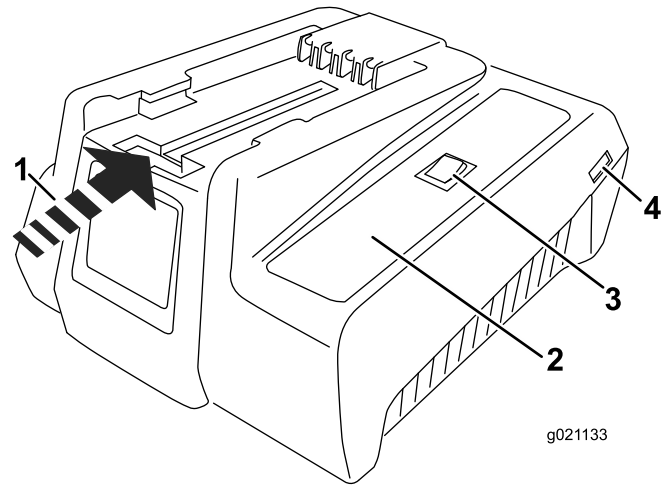

Figure 10
- If the power cord is not plugged in to the charger, plug it in to the charger (Figure 10), then plug the power cord into a power socket.
- Turn the battery upside down and line up the battery terminal with the slot in the charger (Figure 10 and Figure 11).